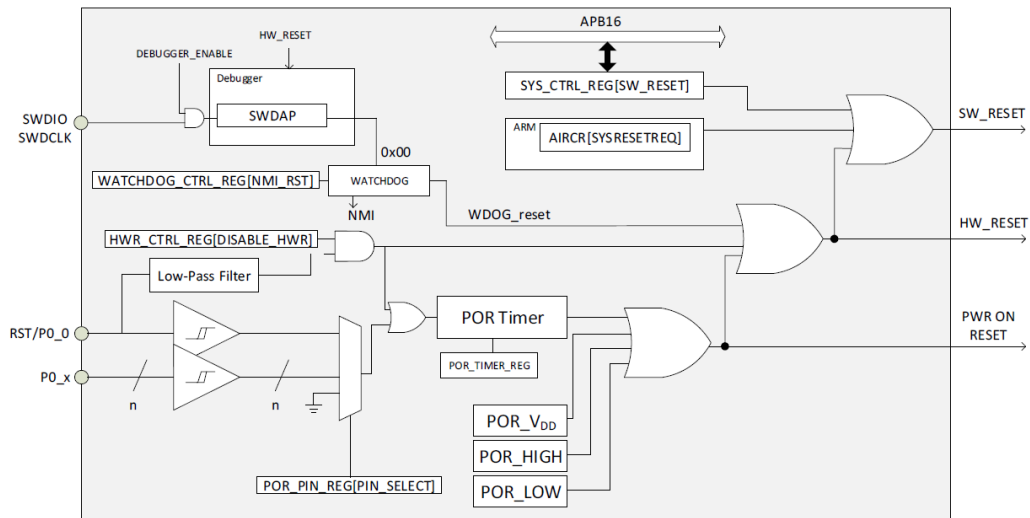

Figure 30. Reset block diagram
- RST pad is multiplexed with P0_0 pin (Figure 30)